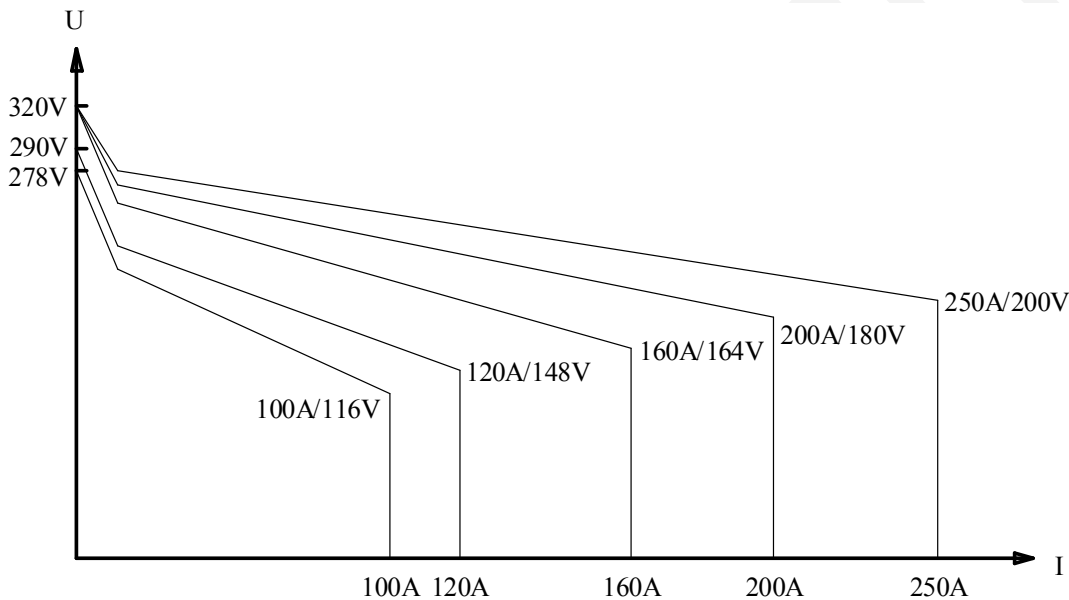

Figure 1 Outer characteristic curve
2.6 The outer characteristic curve of the cutter is shown as figure 1.